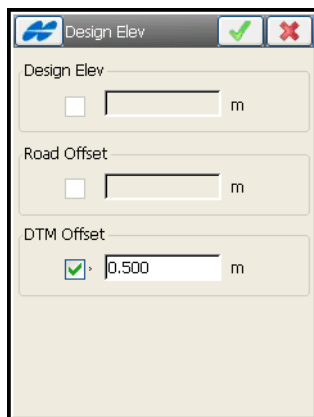

Figure 9-15. Design Elevation
- To change the elevation of the staked point, select the *Design Offsets* option from the Help Icon menu in the upper-left corner of the *Stakeout* screen. Check and enable the *Design Elev* box in the *Design Elevation* screen to manually edit the elevation value (Figure 9-15).